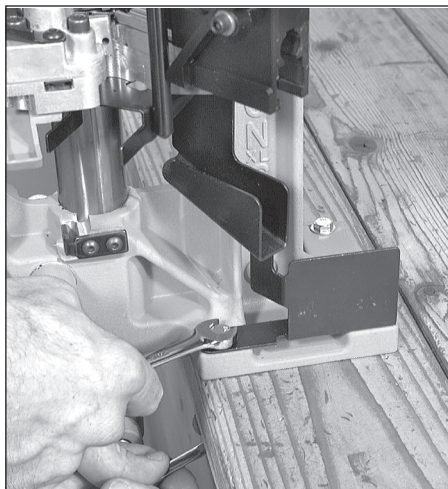

FIG 2
D. Bolting the machine to the bench FIG 2:
2. Place the chute/bin bracket FIG 2 on the right side of the machine. As before, place the small washer on top and the large washers on the bottom and thread the nuts.
Note: The chute/bin mount goes under the two right hand mounting bolts so it must be installed as you are mounting the machine FIG 2. Check the fit of the chute/bin mount. The chute/bin mount should rest snugly against the frame. Also, make sure that the walls of the chute are parallel and have not been